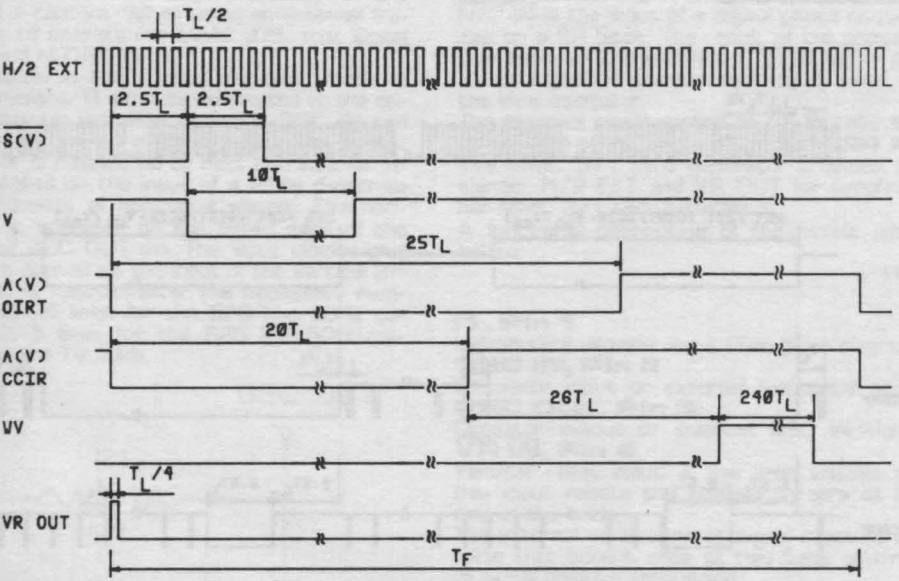

Fig.6 Vertical timing
Vertical reset output. This signal is a pulse that occurs once each even field, at the leading edge of A(V) in that field (see fig. 6).
Horizontal external synchronization output signal (fig. 6). The frequency of this signal is twice the frequency of the horizontal signals.
It is a pulse that begins after 26 lines from the leading edge of A(V) and ends after 240 lines (see fig. 6).
Vertical drive output signal (see fig. 6)
Vertical blanking output signal (see fig. 6)
Vertical sync output signal (see fig. 6)